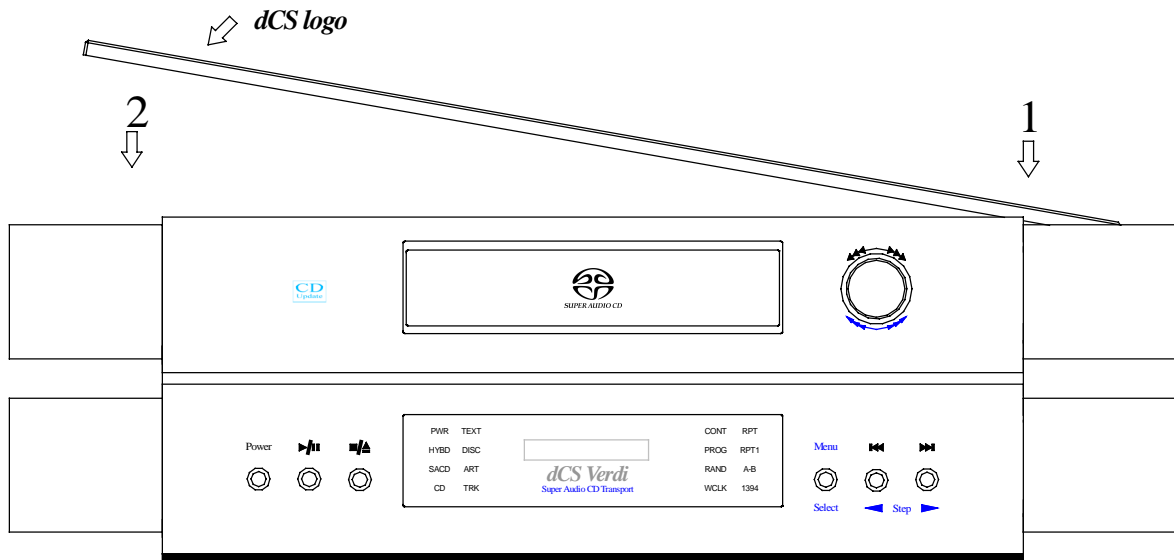

Figure 9 – Locating the Top Glass Plate
- do this:** Find the *dCS* logo on the top face of the glass. Fit the glass with the logo in the front left corner of the unit as shown in **Figure 9**.
- do this:** Carefully locate the right hand edge of the glass in the well in the top of the unit (step 1 in **Figure 9**).
- do this:** Lower the glass down on the left hand side until it can be safely dropped into place (step 2 in **Figure 9**). Centralise the glass plate.